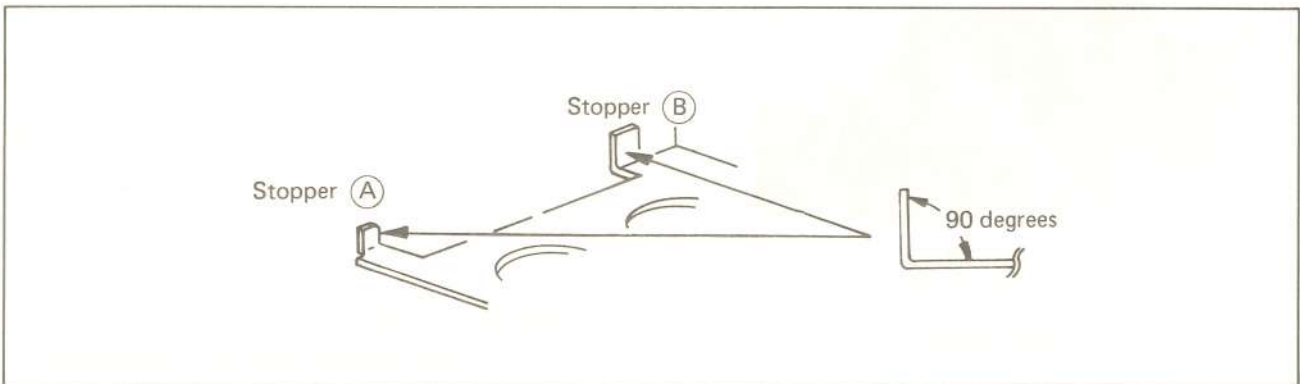

Fig. 4-6
2. Before installing, check angles of stoppers A and B of the cassette housing as shown in Fig. 4-6. If necessary, adjust by bending them.